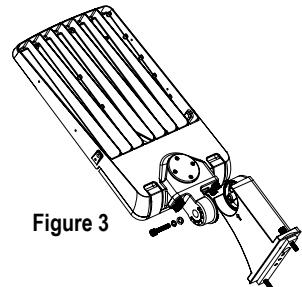

Figure 3
1. Align fixture head and arm at the desired angle with the knuckle. (See Fig. 3)